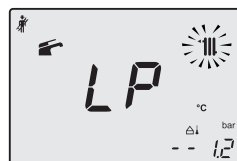
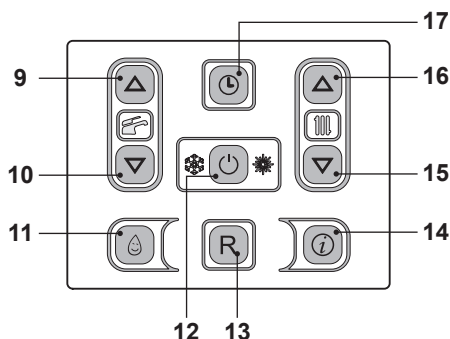
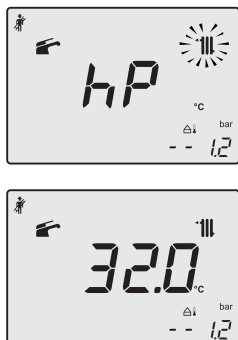

Fig. 9.21
Fig. 9.19
Fig. 9.22
- Enter in "programming mode" by pressing keys 12 - 15 - 16 (Fig. 9.19) for 10 seconds at the same time until the letters **P01** are displayed on the LCD display, indicating that "parameter 01" (Fig. 9.20) has been activated.
- Press keys 15 and 16 (Fig. 9.19) at the same time until the LCD display displays the letters **LP** that alternate with the heating water temperature value (e.g. **45**), indicating the activation of the "chimney sweep function" at minimum output (Fig. 9.21).
- By pressing 16 (Fig. 9.19) it is possible to change power in chimney sweep mode: with the letters **hP** on the LCD display which alternate between the heated water temperature (i.e. **32**), we are in the "chimney sweep function" at the minimum power during heating (Fig. 9.22).
- Press keys 12 - 15 - 16 (Fig. 9.19) at the same time again to exit the "chimney sweep mode" and return to the previously set boiler status (Fig. 9.25).